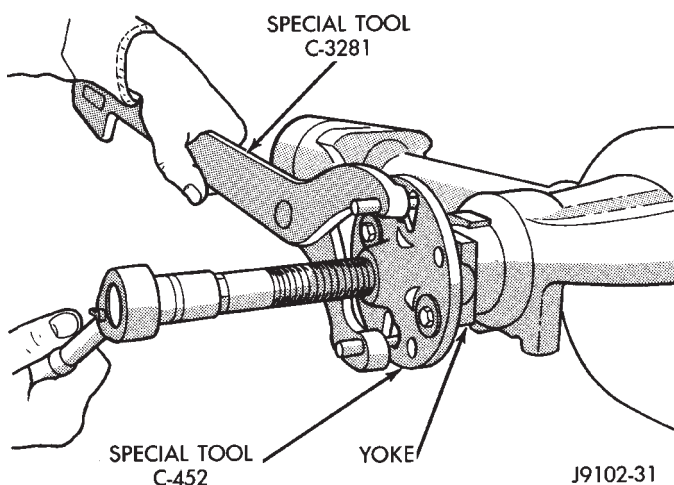

Fig. 6 Pinion Yoke Removal
(1) Raise and support the vehicle.
(2) Remove wheel and tire assemblies.
(3) Remove brake rotors and calipers. Refer to Group 5, Brakes, for proper procedures.
(4) Mark the propeller shaft and pinion yoke for installation reference.
(5) Remove the propeller shaft from the yoke.
(6) Rotate the pinion gear three or four times.
(7) Measure the amount of torque necessary to rotate the pinion gear with a (in. lbs.) dial-type torque wrench. Record the torque reading for installation reference.
(8) Using Holder 6958 to hold the pinion yoke, remove the pinion nut and washer.
(9) Use Remover C-452 and Wrench C-3281 to remove the pinion yoke (Fig. 6).